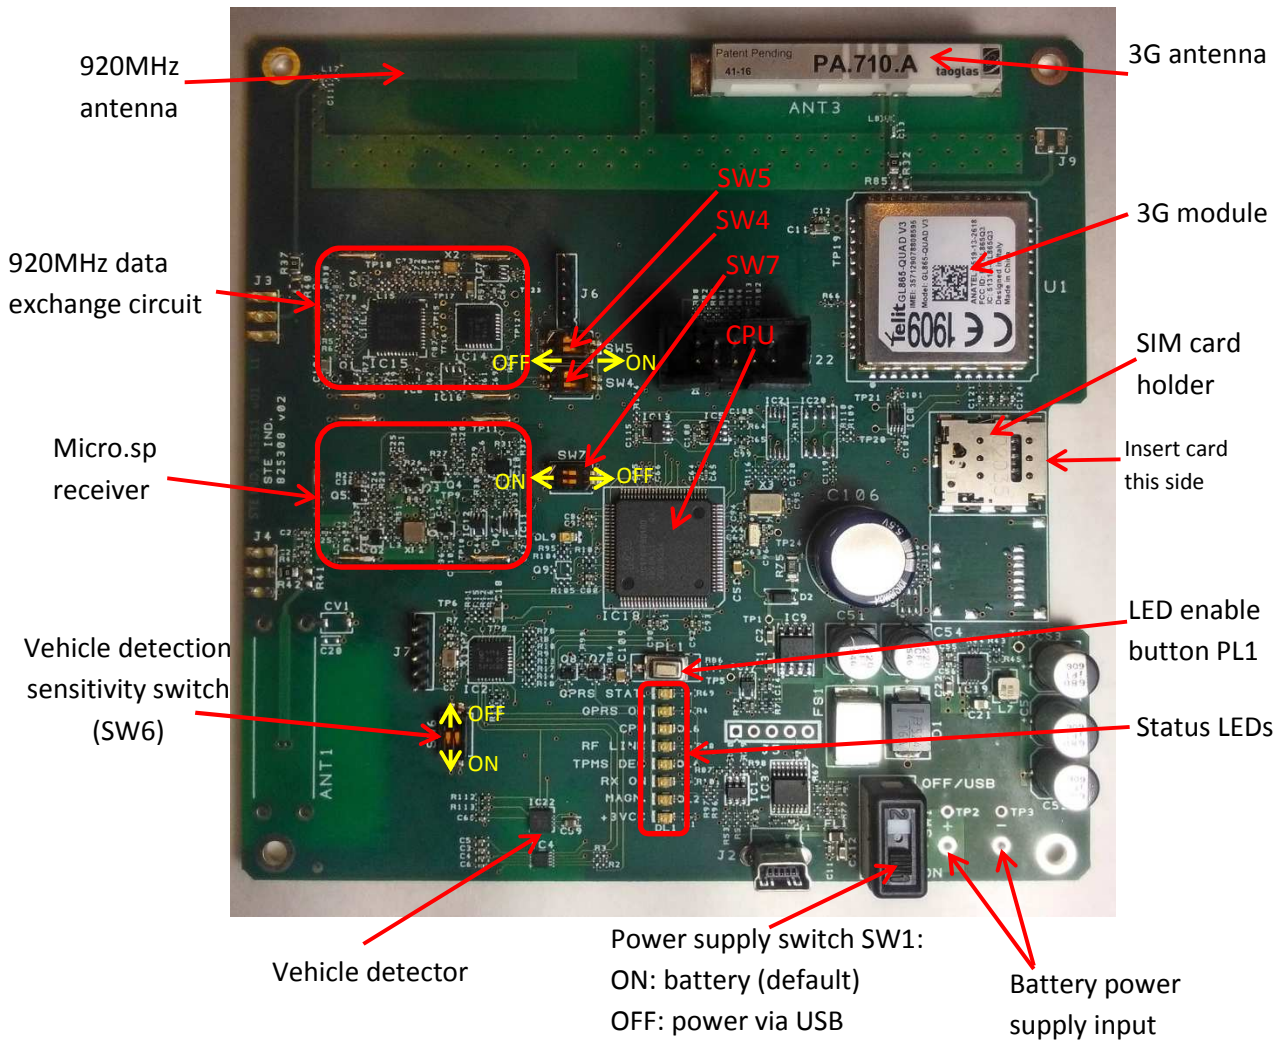

Figure 7 – (Q)Be© mother board
Vehicle detection sensitivity is controlled by setting DIP switch SW6 on both Master and Slave towers before powering up the system. Please refer to Figure 7 for SW6 location. You will need a small pointed tool to operate the switches.
Slave address is determined by DIP switch SW4 and identifies the role of a tower in (Q)be Gate System as explained in the table below. Please refer to Figure 7 for SW4 location. Default configuration includes only Master and Slave 1: the other two Slave units are optional. This DIP switch is programmed in factory and should never be changed.
Installation address is determined by DIP switch SW5 and defines the address that Master and Slave units use to communicate between each other. Data polling only occurs when Master and Slave(s) have the same installation address. This feature can be used in the particular case when multiple Gate systems need to be equipped in the same area, in order to prevent those systems from interfering with each other. Please refer to Figure 7 for SW5 location.